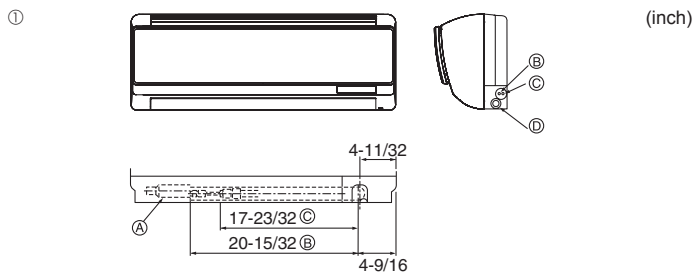

Fig. 4-2
① Position of refrigerant and drain piping (Fig. 4-2)
- (A) (Effective length: 640 mm, 25-3/16 inch)
- (B) Liquid pipe
- (C) Gas pipe
- (D) Drain hose